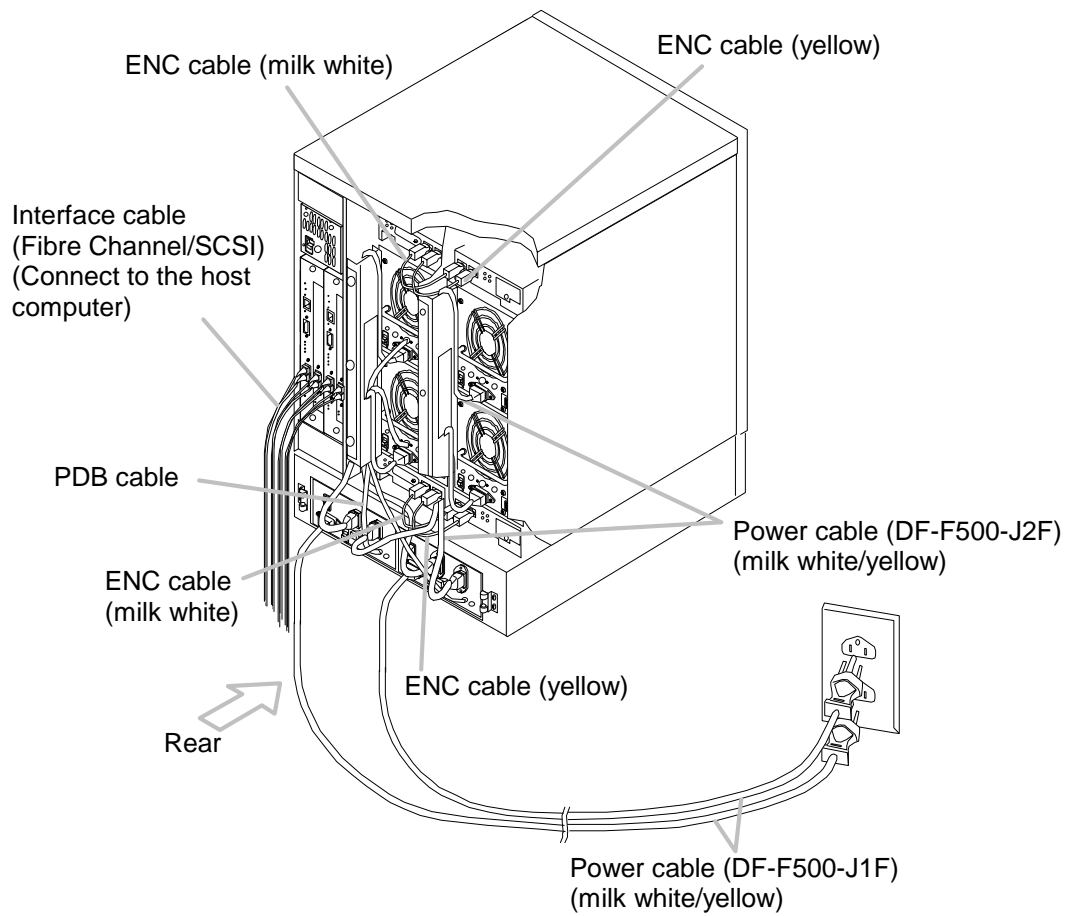

Figure 4.26 Connecting the Cables
3. Connect ENC cables. (see figure 4.26)
5. Connect interface cables (Fibre Channel/SCSI). (see figure 4.26)